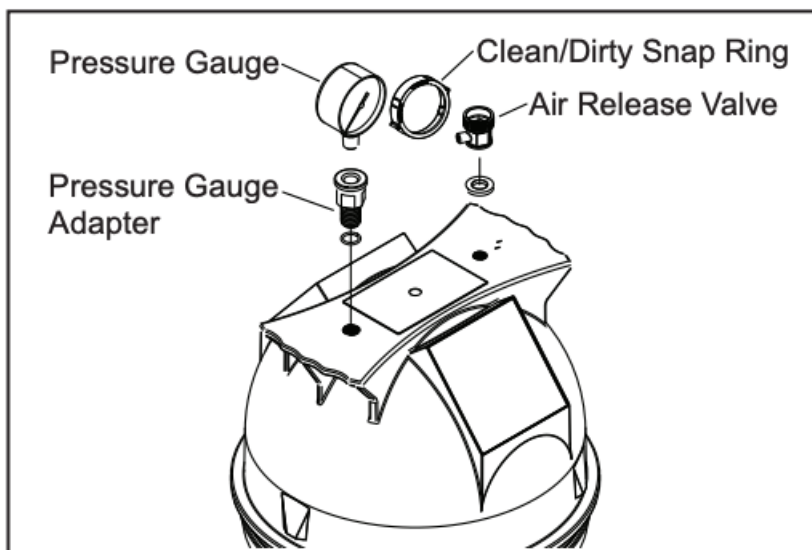

Figure 2. Pressure Gauge and Pressure Release Assembly
4. Install the pressure gauge and adapter assembly to the threaded hole marked "Pressure Gauge" at the top of the filter. See Fig. 2.
5. Install the air release valve into the threaded opening marked "Air Release" at the top of the filter. See Fig. 2.